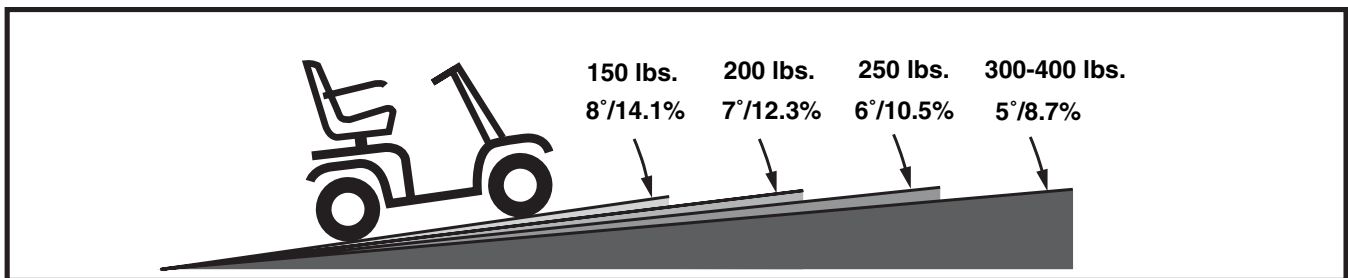

Figure 1. Maximum Recommended Incline Angles
**WARNING! Even though your PMV is capable of climbing slopes greater than those illustrated in figure 1, do not, under any circumstances, exceed the incline guidelines or any other specifications presented in this manual. Doing so could cause instability in your PMV, resulting in personal injury and/or damage to your PMV.**
Handicap public access ramps are not subject to government regulation in all countries, and therefore do not necessarily share the same standard degree of slope. Other inclines may be natural or, if man-made, not designed specifically for PMVs. Figure 1 illustrates your PMV's stability and its ability to climb grades under various weight loads and under controlled testing conditions.
**WARNING! Any attempt to climb or descend a slope steeper than what is shown in figure 1 may put your PMV in an unstable position and cause it to tip, resulting in personal injury.**